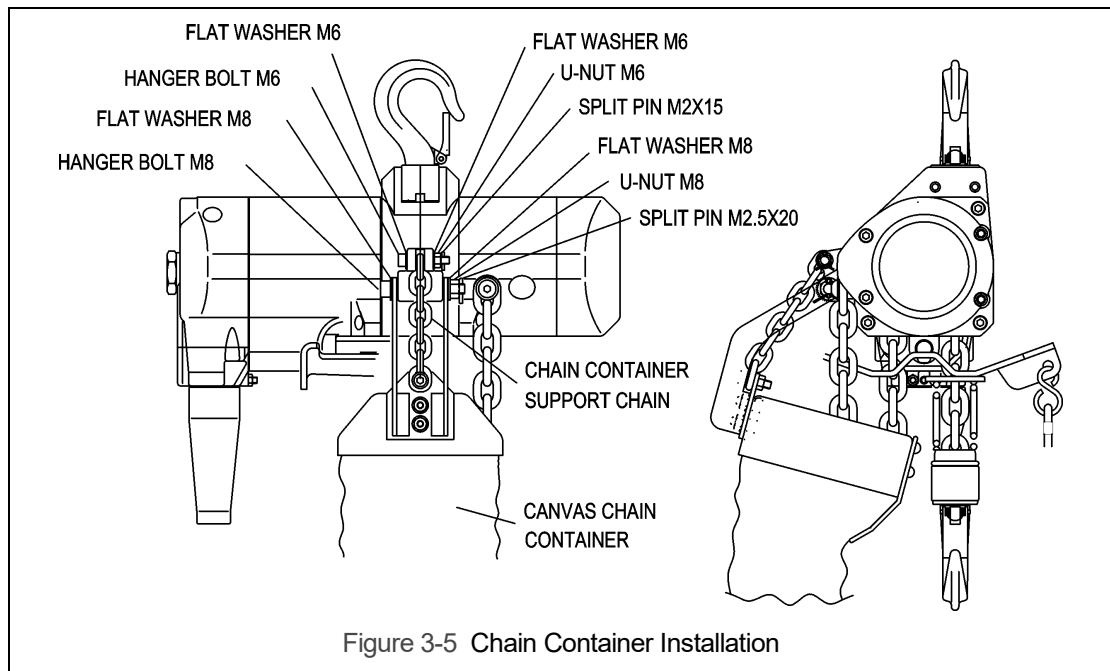

Figure 3-5 Chain Container Installation
3.10.1 Follow instructions below to install the optional chain container. Refer to Figure 3-5.